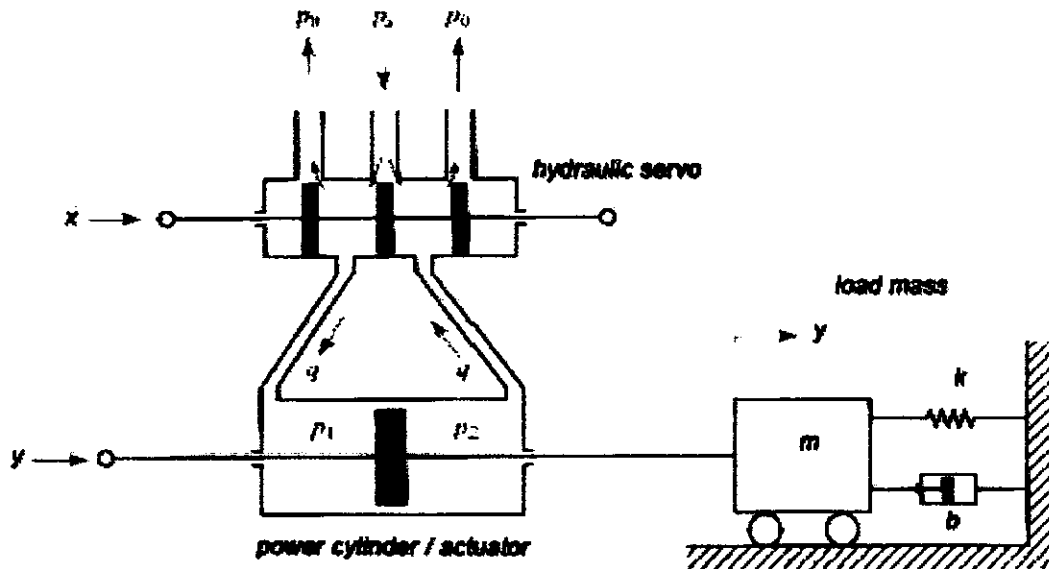

Figure Q1 / Rajah S1
- Q1 (a)** A hydraulic servo system is used to move a big load m as in Figure Q1. Assuming that load reaction forces are not negligible, also that the mass of the power piston is included in the load mass, m . Load reaction forces relationship is as below;
- (i) Derive all mathematical model exist in the system shown in Figure Q1 taking into account load reaction forces.